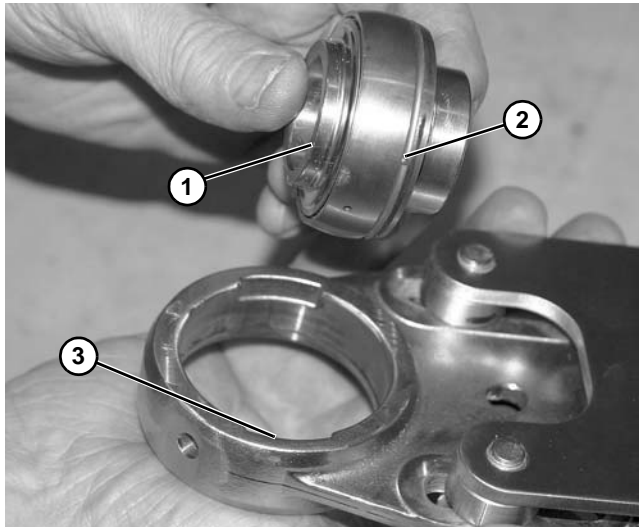

Figure 183
5. Insert bearing (**Figure 183, item 1**) into housing slot. Locate anti-rotation nub (**Figure 183, item 2**) to align with slot (**Figure 183, item 3**) and twist bearing into housing.